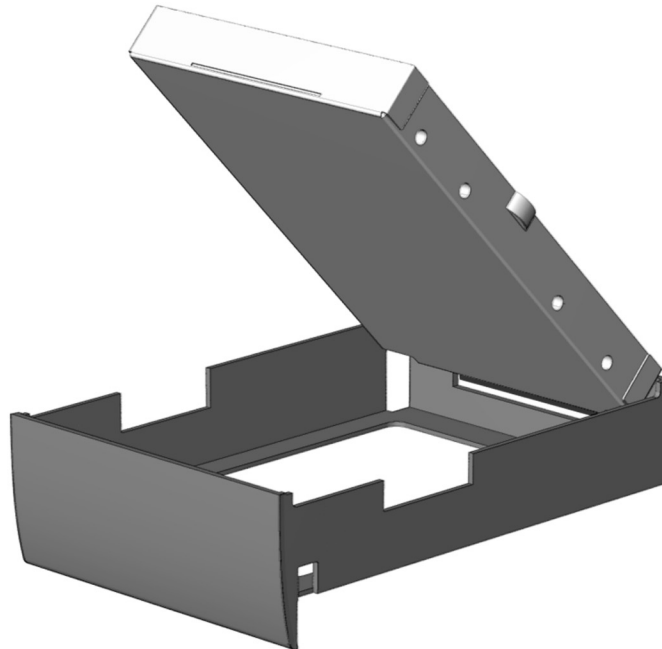

Figure 5-14. *Removing the Hard Drive from the Hard Drive Tray*
5. Lift the front edge of the metal hard drive and swing the drive out of the plastic hard drive tray (Figure 5-14).